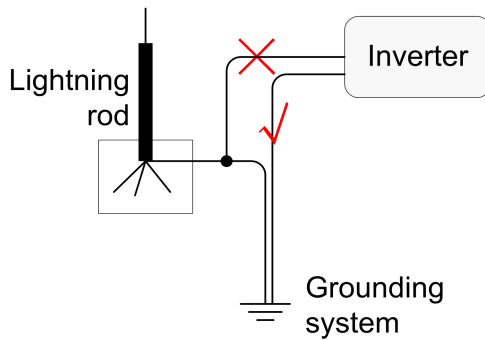

Figure3-13 Grounding diagram of inverter
- The grounding of the inverter and the lightning rod of the building that inverter installed cannot be the same, the two need to be separated (as shown in Figure3-13), or, lightning stroke will damage the inverter.